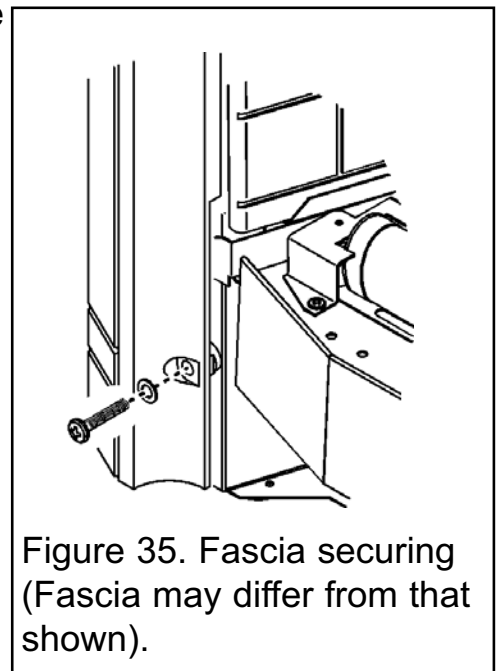

Figure 35. Fascia securing (Fascia may differ from that shown).
2. Remove the two screws and washers securing the bottom of the fascia to the sides of the hotbox (See figure 35).
3. Remove the two screws and washers securing the bottom of the fascia to the sides of the hotbox (See figure 35).